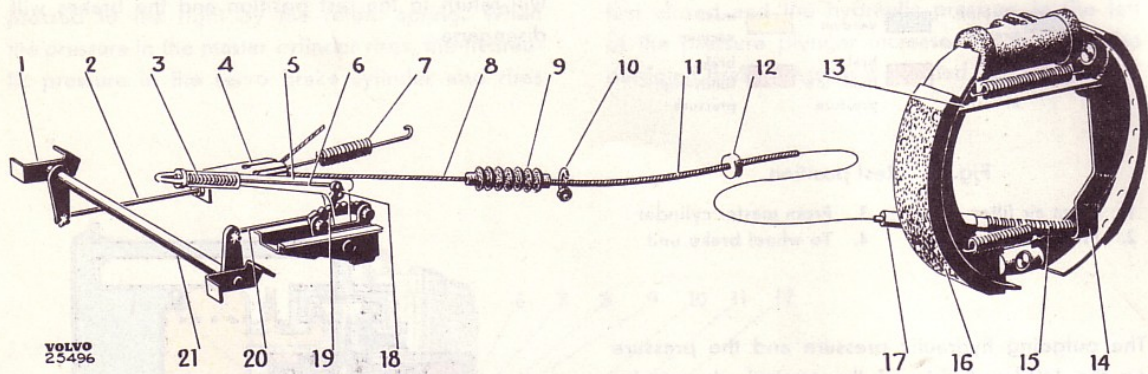

Fig. 13. Handbrake system.
The arrangement of the handbrake system is shown in Fig. 13. On the P 120, however, the handbrake lever is attached directly to the shaft (21). The handbrake lever (5) is placed in the floor on the outside of the driving seat. The movement of the lever is transmitted via the pull rod (20), shaft (21) with arm and pull rod (2) to the clevis (4).